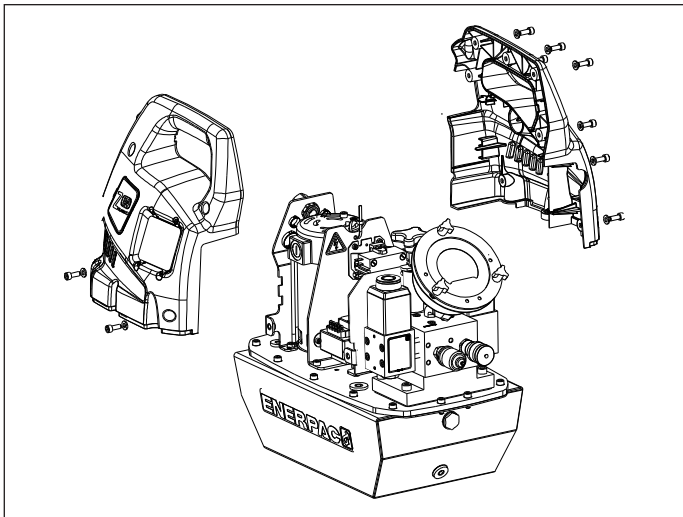

Figure 2, Removing the Shroud Halves
4. Loosen capscrews and remove pump shroud halves. See Figure 2. Save capscrews for use during reinstallation.